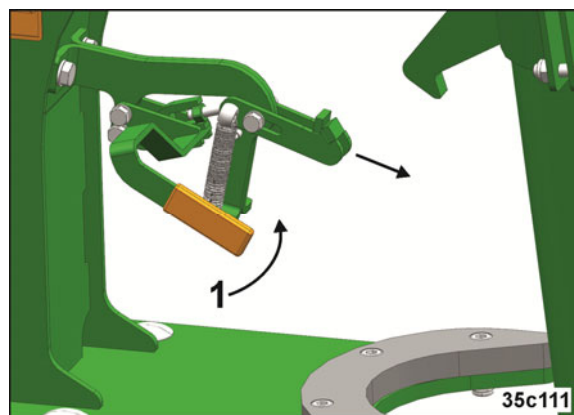

Fig. 231
3. Unlock the transport lock (Fig. 231/1).